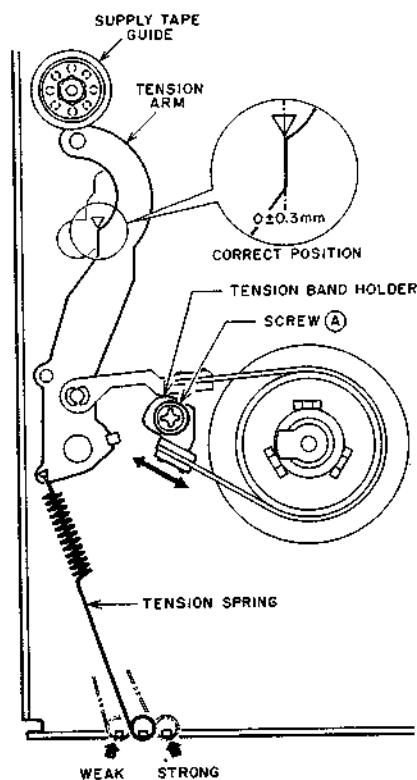

Fig. 5-1
- 3) In the play mode, loosen the screw (A) and set the tension arm position to the correct position as shown in Fig. 5-1 by the tension band holder position, then tighten the screw (A).
- 3) En mode de lecture, desserrer la vis (A) (screw A), mettre le bras de tension à la position correcte au moyen du porte-courroie tendeur, de la manière illustrée à la Fig. 5-1, et resserrer la vis (A) (screw A).